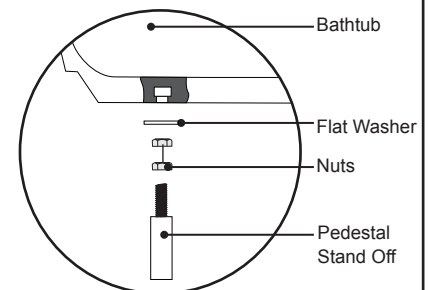

Figure 25. Pedestal Leg Attachment
- ❶ Attach the four (4) pedestal legs to the bottom of the bathtub (Figure 25).
- ❷ Fingertighten at this time.
- ❸ When complete place the unit on the packaging, or a blanket, off to the side of the installation area.